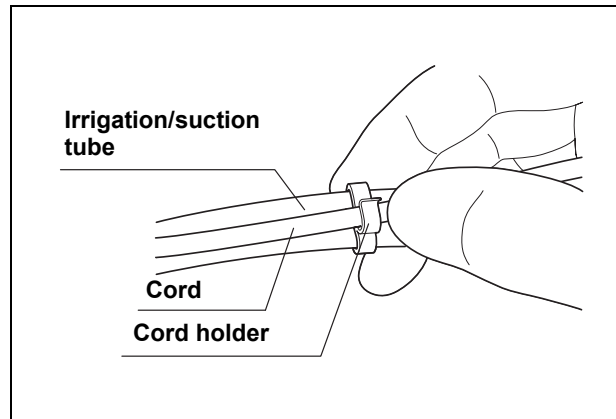

Figure 4.24
5. Attach the cord holder of the irrigation/suction tube (MAJ-1099) to the cord of the GE hand switch. Take care not to twist or bend the cord or the tube while doing this (see Figure 4.24).